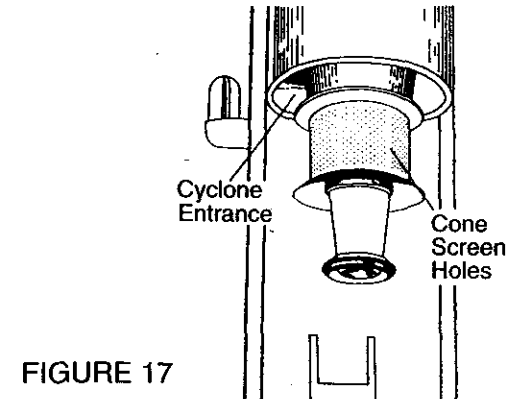

FIGURE 17
- Remove any dirt or lint that may have accumulated in the cyclone entrance. (Figure 17)
- Clear the Screen Holes on the Cone of any dirt or lint that may have accumulated. (Figure 17)
- Remove the Collection Bin and check for any dirt or lint that may have accumulated in the Cyclone Entrance. (Figure 17 on page 6)